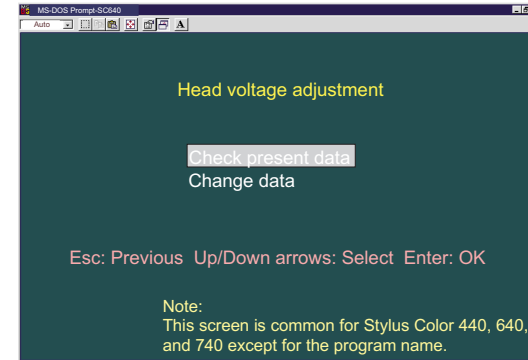

Figure 5-22. Head Voltage ID Check/Input Select Menu
7. Press the Esc key once. The screen returns to the Head Voltage ID Check/Input Select Menu. (See Figure 5-22.)